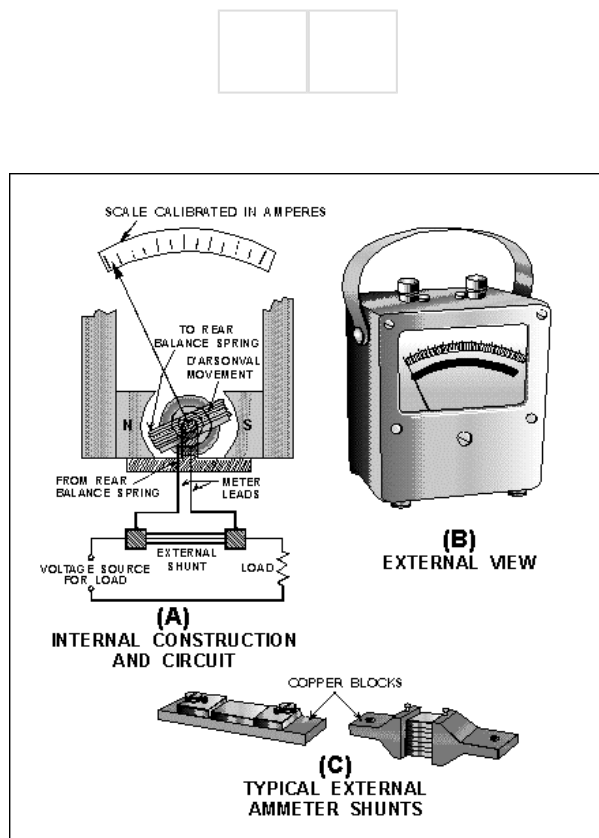

Figure 1-23.—An ammeter employing the d'Arsonval principle and external shunts.
For higher current ranges (above 50 amperes) ammeters that use external shunts are used. The external shunt resistor serves the same purpose as the internal shunt resistor. The external shunt is connected in series with the circuit to be measured and in parallel with the ammeter. This shunts (bypasses) the ammeter so only a portion of the current goes through the meter. Each external shunt will be marked with the maximum current value that the ammeter will measure when that shunt is used. Figure 1-23 shows an ammeter that is designed to use external shunts and a d'Arsonval meter movement. Figure 1-23(A) shows the internal construction of the meter and the way in which the external shunt is connected to the meter and to the circuit being measured. Figure 1-23(C) shows some typical external shunts.